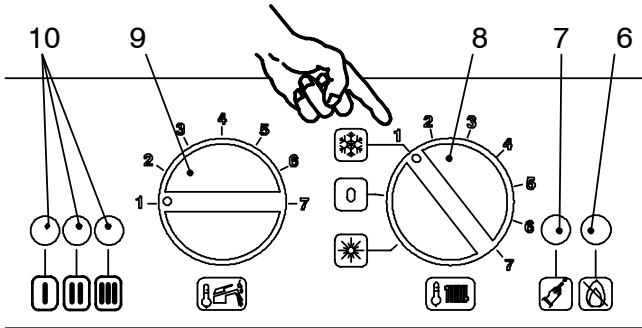

Fig. 7.9
- 9 Make a note of the position of the knob 9 and recorded this in Fig. 7.9 below with an *.
- 10 Turn the boiler OFF and ON positioning the function selector 8 as indicated in Fig. 7.9